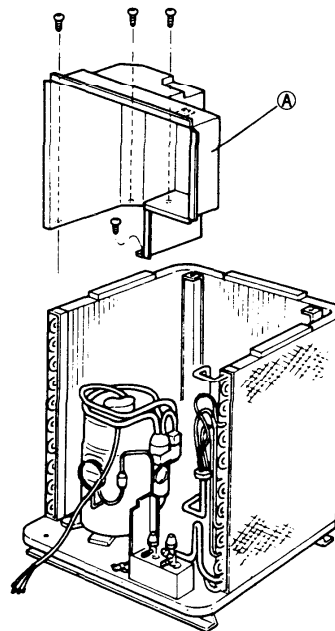

Fig. 9
1) Unfasten four screws fixing the cover **A**. The cover can be removed by lifting it upward. Fig. 9